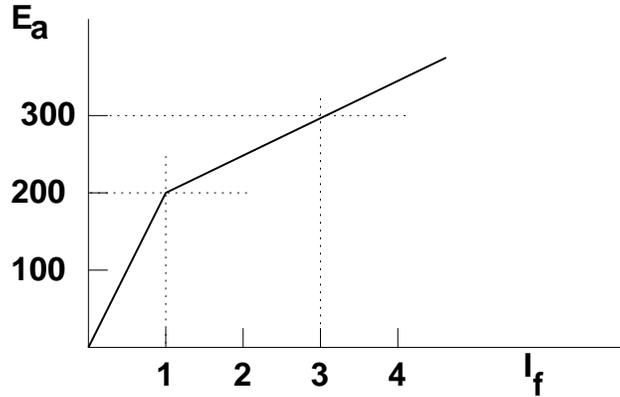

Figure 2: Problem 2: Excitation Curve of a DC generator
**Problem 2: DC Generator** A DC generator is tested at a speed of 200 Radians per second and found to have an open-circuit voltage vs. field current characteristic as shown in Figure 2.